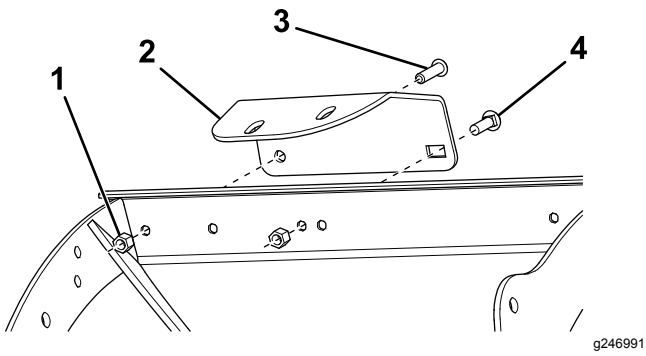

Figure 2
5. Loosely attach the spring bracket base-plate to the plow using a carriage bolt (3/8 inch), button head bolt, and 2 locknuts (Figure 2).